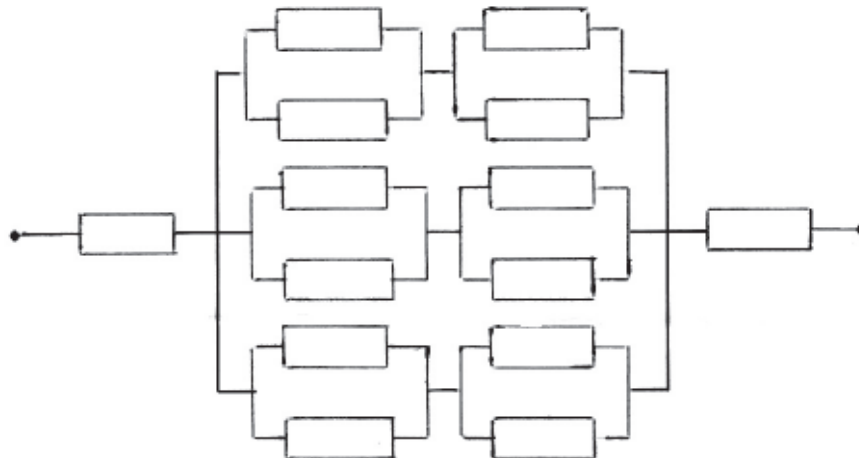

Figure 1
- b) Obtain the reliability of the system for the block diagram shown in figure 1. All the elements are identical and independent with a reliability value of 0.88. [6]